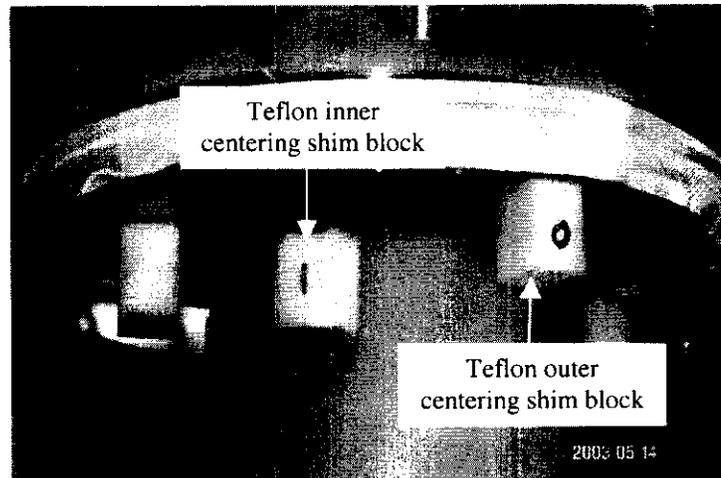

**Figure 1.22** The positions of the tensioning studs, nuts, and top plate Conflat flange as the 20 Conflat bolts are tightened.
1.22 Raise the nuts on the tensioning studs to hold the lead in place, as shown in Figure 1.22.